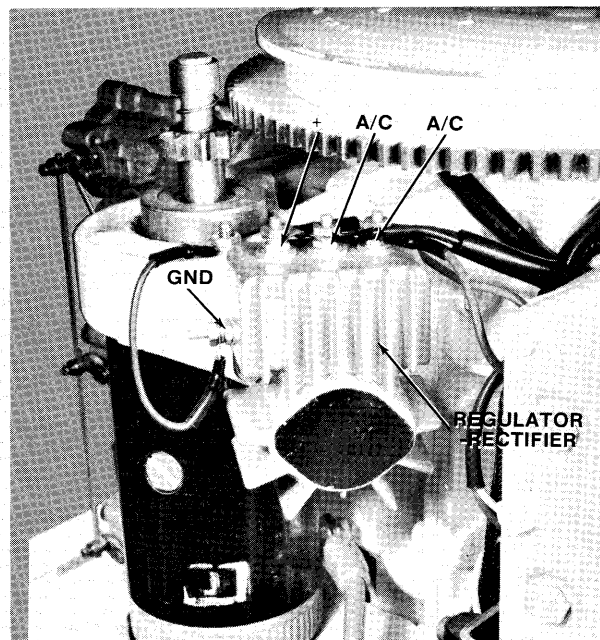

Figure 3—Regulator-Rectifier
- A. Disconnect red lead wire from (+) terminal stud on regulator—rectifier by removing hex nut securing same. See figure 3.
- A. Install regulator—rectifier on powerhead and secure with three (3) screws.
- B. Connect one (1) black lead wire and one (1) purple lead wire to top right side terminal stud (AC) and secure with lockwasher and nut. See figure 3.
- C. Connect other black lead wire to middle terminal stud (AC) and secure with lockwasher and nut.